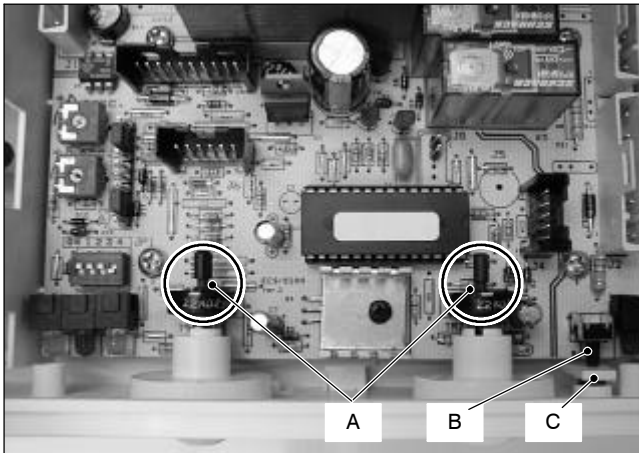

Fig. 38
- 8 Insert the spindles in the control panel knobs until the notch A (Fig. 38) reaches the potentiometer edge. It is not necessary to force them in the knob.
p.c.b. towards the control panel fascia making sure of the contact between the boiler reset button *B* and the tab *C* (Fig. 38).